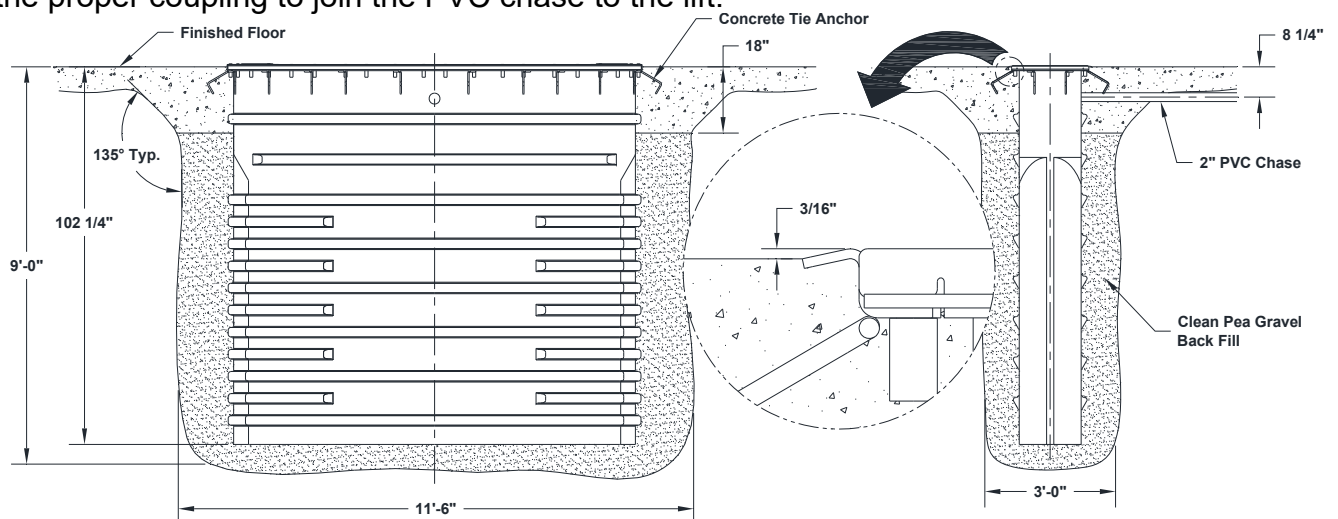

Fig. 2
New construction requires an excavation as shown in **Fig. 2**. **NOTE:** Concrete must be finished to edge of concrete tie (3/16" below top of concrete ties, see **Fig. 2** below). All depths are measured from the finished floor level. Failure to comply will void the warranty. The power unit may be installed on the nearest wall or floor pedestal. The power unit should be located out of the working area around the lift and vehicle, but close enough to allow good visibility while operating the lift. Hydraulic and air lines from the lift should be recessed under the slab in a 2" sch. 40 PVC chase. CLI will supply the proper coupling to join the PVC chase to the lift.
- Pour concrete floor taking care not to run concrete in or on top of the lift / containment assembly. **NOTE:** Concrete must be finished to edge of concrete tie (3/16" below top of concrete ties, see **Fig. 2**). The floor should slope away from the lift for drainage. The floor slope should not exceed 1/16" per foot. 3500 psi concrete, steel reinforced per local commercial practice is required. The new concrete must be mechanically joined to the existing floor with rebar.